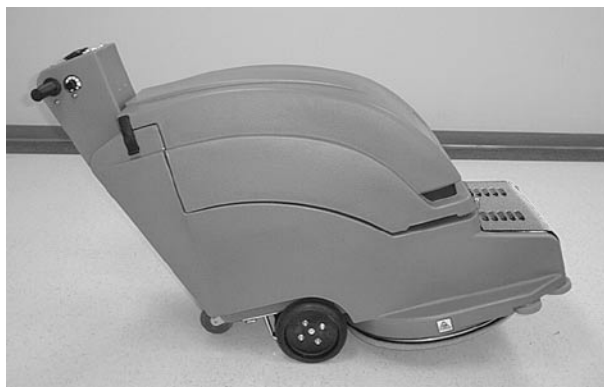

FIG. 5
1. Turn off machine and tilt machine back on rear wheels (Figure 5).